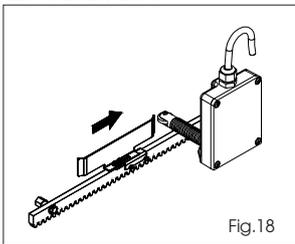

Fig.18
- 5) Allow the plate to slide over the rack in opening direction (Fig.18). As soon as the opening limit switch LED on the control board goes off, take the plate forward by about 20+30 mm and secure it provisionally on the rack, using the supplied screws.